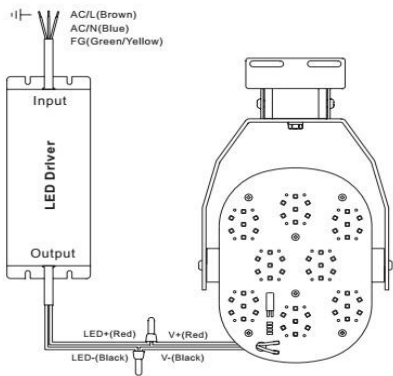

Figure 4
6. Connect correctly the input wire of the lamp body and the output wire of the driver, see Figure 4.